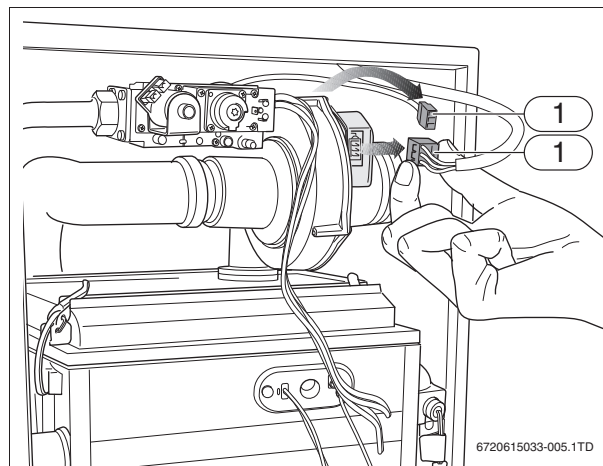

Fig. 4 Removing the connectors from the fan
- ▶ Pull both plugs from the fan unit (→ fig. 4, [1]).